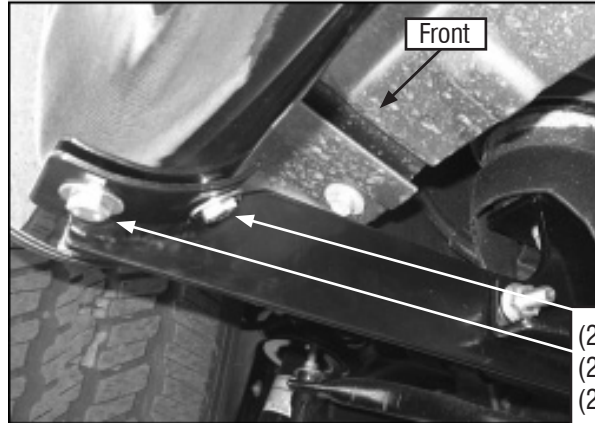

Figure 7
Carefully position the Driver Sidebar onto the Mounting Brackets. Attach the Sidebar to the Mounting Brackets with (6) 8mm x 25mm Hex Bolts, (6) 8mm Lock Washers and (6) 8mm Flat Washers, (Figure 7). Do not tighten hardware at this time